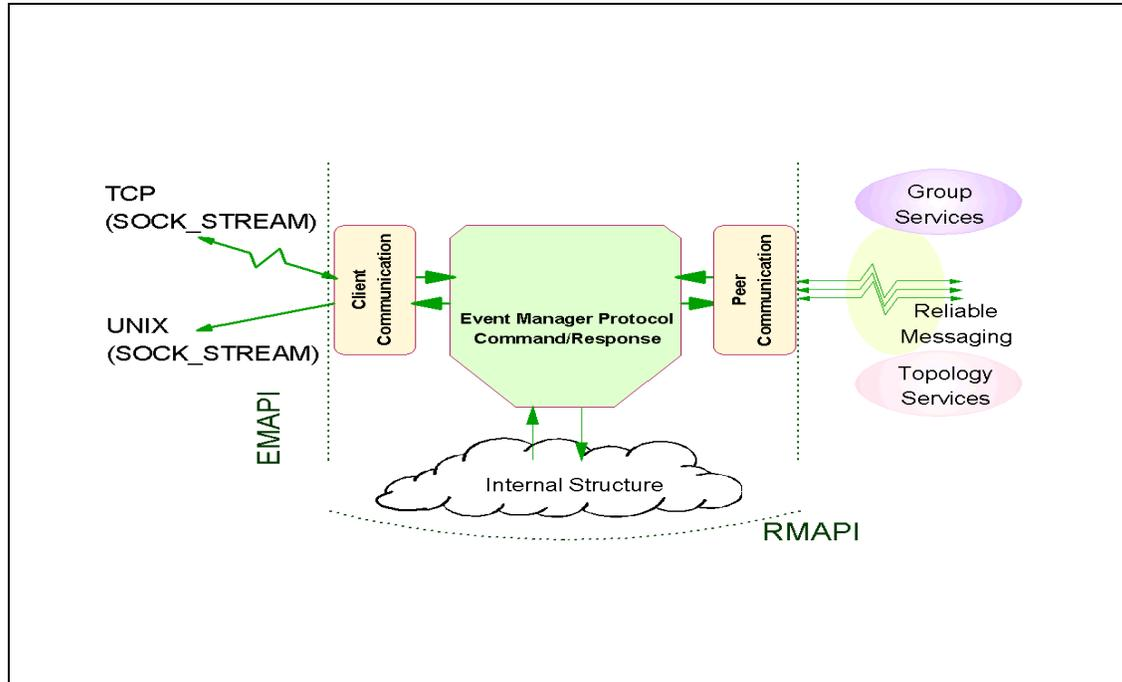

Figure 12-2 EM client and peer communication
EM is a distributed application, implemented by the EM daemon (haemd), running on each node and the CWS. Similar to Topology Services (TS) and Group Services (GS), EM is partition-sensitive; thus, the CWS may run multiple instances of haemd. To manage its distributed daemons, EM exploits GS. GS serves applications, such as EM. Because EM must communicate reliably among its daemons, it uses the Reliable Messaging information built from TS. This is shown in Figure 12-2 on page 401.